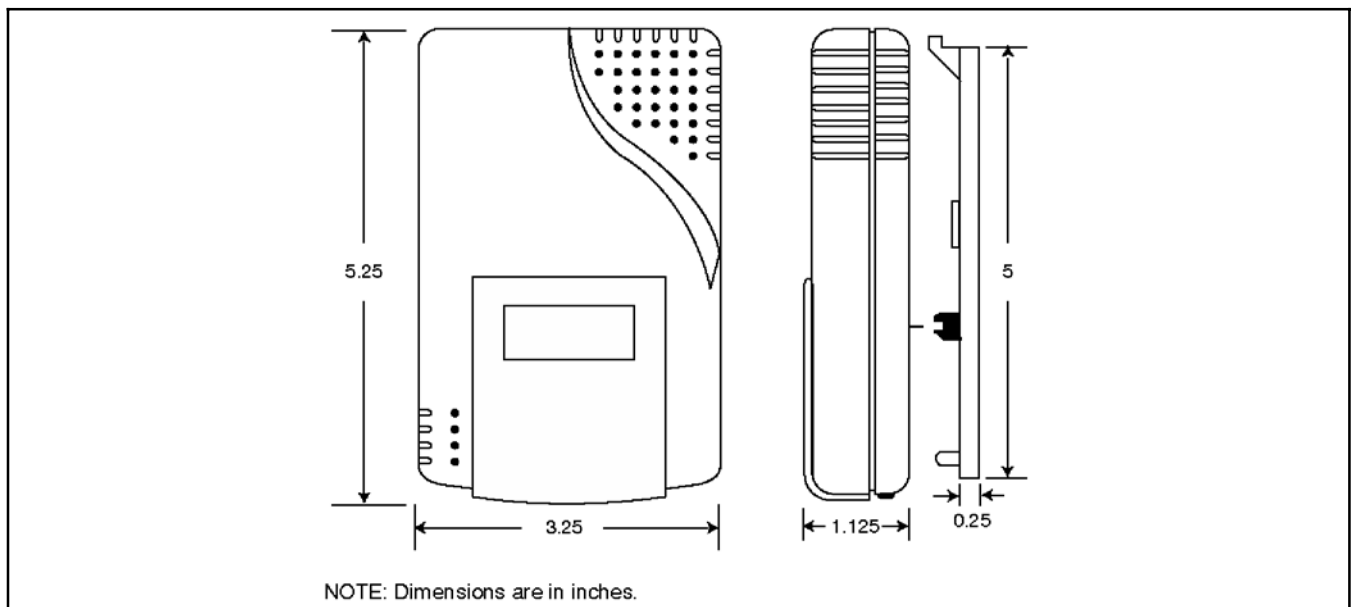
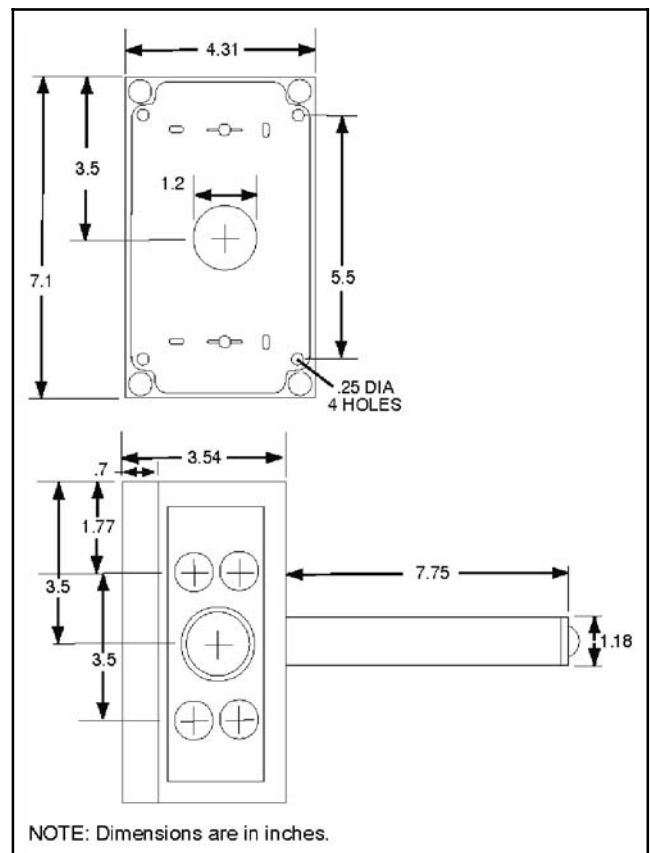

Fig. 1 - Fig. 1 - CO₂ Sensor Dimensions
Fig. 2 - Aspirator Box Accessory (Part No. 33ZCASPCO2) and Dimensions
The sensor is secured to a mounting plate by a locking screw. See Fig. 1. Power is supplied by running conduit through a knockout and wiring to the terminal blocks located on the sensor mounting bracket. A solid door is included to cover the digital display if required.
Step 1 - Sensor Location — See Fig. 1 for CO₂ sensor dimensions. This accessory package also includes an aspirator box. See Fig. 2 for aspirator box dimensions.
7. Hold the aspirator box vertically with the terminal blocks at the bottom and install a snap bushing into the conduit hole located on the right-hand side of the aspirator box at the bottom. See Fig. 2 for details.
6. Hold the aspirator box vertically with the terminal blocks at the bottom and install a snap bushing into the conduit hole located on the right-hand side of the aspirator box at the bottom. See Fig. 2 for details.
8. Drill a 1.2-in. hole in the return air duct. See Fig. 2 for aspirator box dimensions. Mount the aspirator box to the duct, using four sheet metal screws provided. Verify that the 3 circular holes on the inlet tube are facing downward.